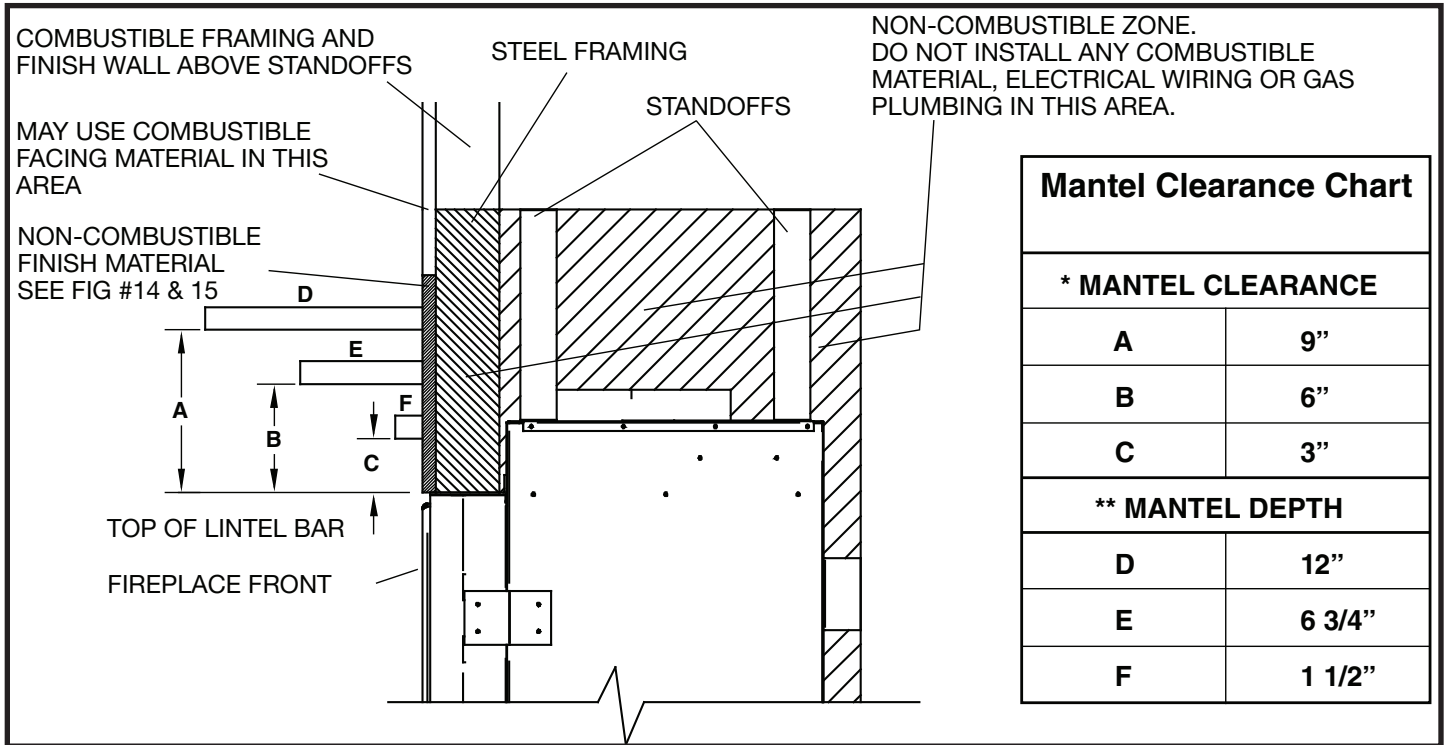
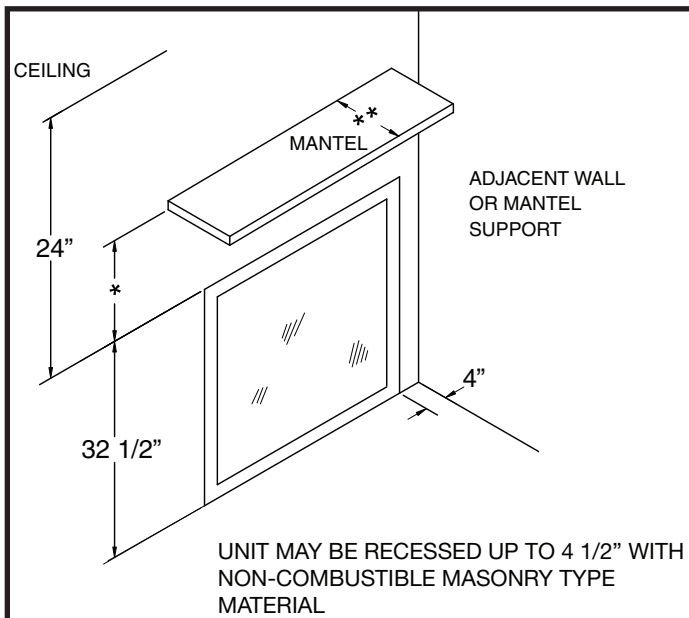

Figure 3: TC 36 Mantle clearances.
Figure 4: TC 36D Mantle.
*Mantel to appliance.....	(Figure 3)
**Maximum Mantel extension.....	(Figure 4)
The minimum clearances from the fireplace to combustible surfaces must be adhered to and are shown in Figure 3 & Figure 4.